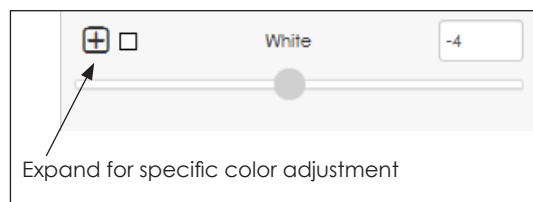
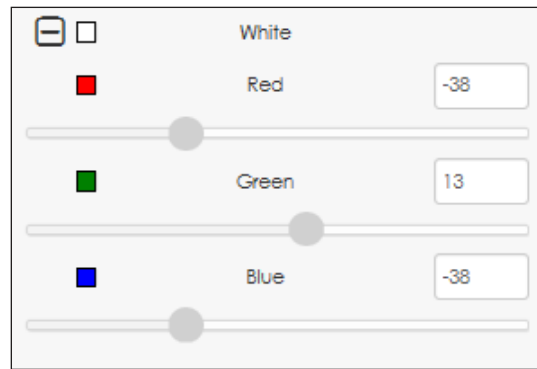

Figure 95: White Adjustment
Figure 96: Color Adjustment
- Adjust the selected module(s) using the **White** slider. This action uniformly adjust the red, green and blue values. Refer to **Figure 95**.
7. Click the expand icon  as shown in **Figure 95** to adjust the specific red, green, or blue values. Adjust the values for any of these colors with the sliders or by entering values in the text boxes. Refer to **Figure 96**.